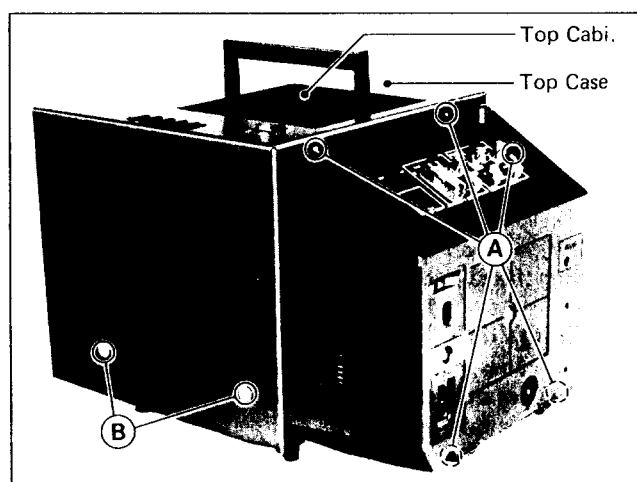

Fig. 7-1
1. Remove the six screws (A) shown in Fig. 7-1.
The top case and the top cabinet can be detached by removing the four screws (B) (two screws on the opposite side) shown in Fig. 7-1.